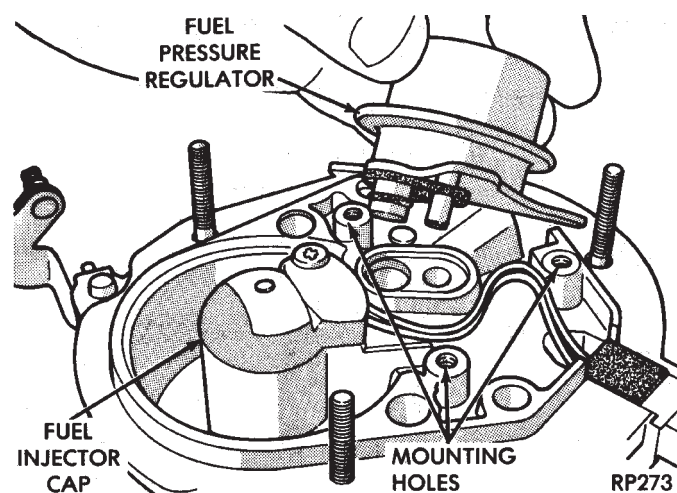

Fig. 6 Servicing Fuel Pressure Regulator
The fuel pressure regulator is mounted on top of the throttle body (Fig. 6).
- (1) Remove air cleaner assembly.
- (2) Perform Fuel System Pressure Release procedure.
- (3) Disconnect battery negative cable.
- (4) Remove pressure regulator mounting screws (Fig. 6).